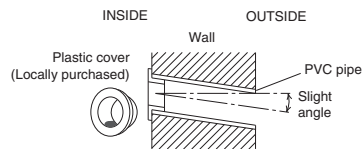

Fig. 3-37
- Place the plastic cover over the end of the pipe (for indoor side only) and insert the pipe in the wall. (Fig. 3-37)